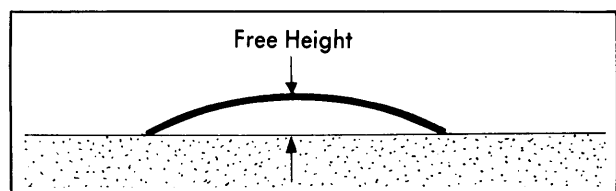

Fig. 15 Measuring Free Height of Apex Seal Spring
4) Be sure free height of apex seal spring (Fig. 15), is at least .22" (5.5 mm) on RX-3 models and .15" (3.8 mm) on other models.